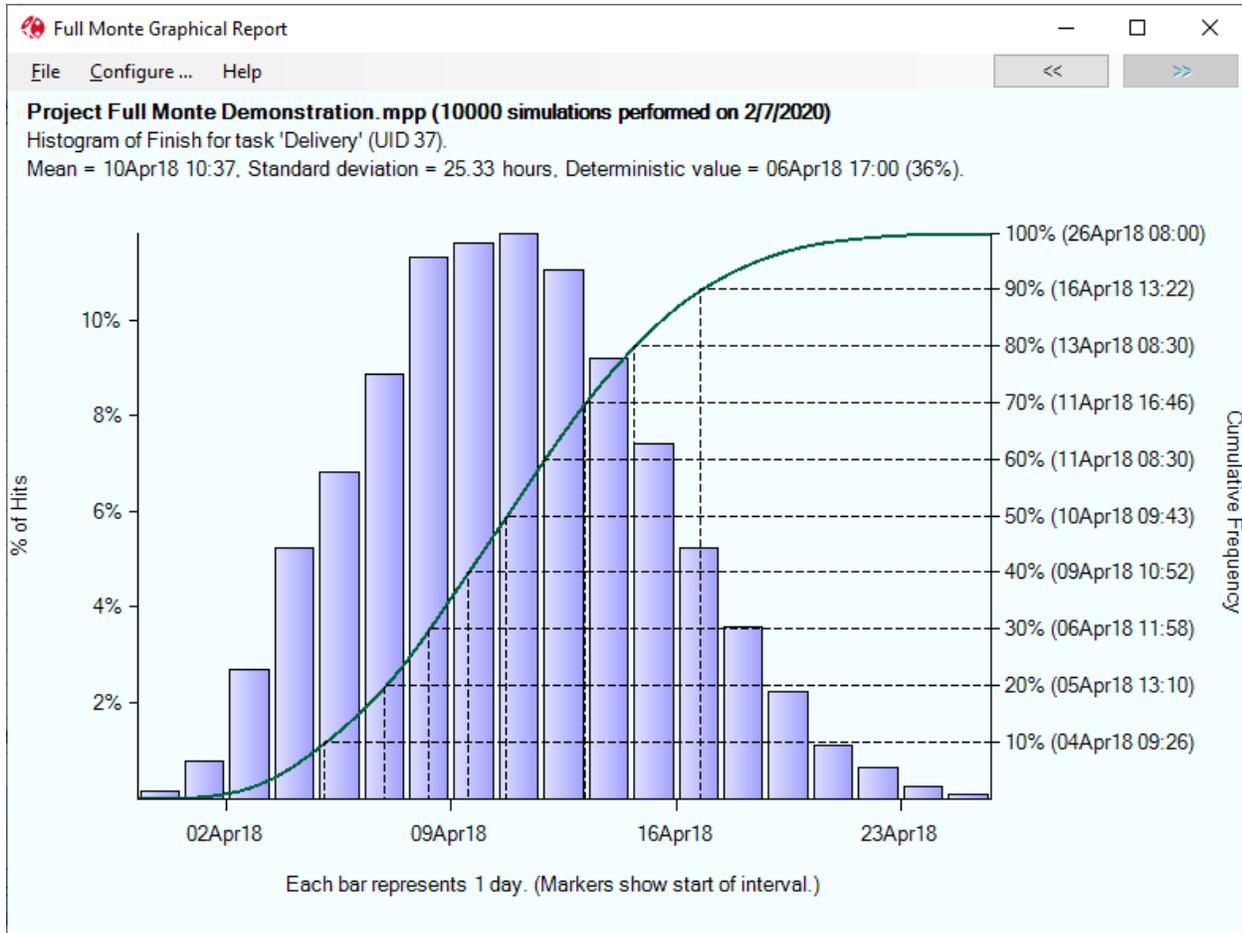

Figure 11
Consider the histogram shown in Figure 11.
The standard deviation in the title bar shows 25.33 hours. Standard deviation is a measure of the 'spread' or 'range' of the results.  $\pm 3$  times the standard deviation will encompass 99.7% of the results from the simulation. So,  $6 * 25.33$  hours is roughly 152 hours which equates to roughly 19 days. The x-axis in figure 11 is scaled in days and there are, as predicted, 19 bars for 19 days.
*Note: Standard Deviation is based on working periods on the appropriate task calendar and the chart in Figure 11 has been configured to hide non-working periods.*
Consider again the histogram shown in Figure 11. Note the Deterministic Value shown in the title block: